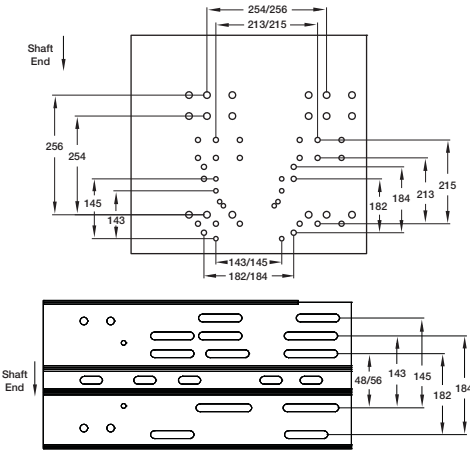

Figure 3 — Motor Mounting Positions Based on Motor Frame Size
2. Refer to Figure 3 for mounting position based on motor frame size. Secure motor to plate using hardware provided.